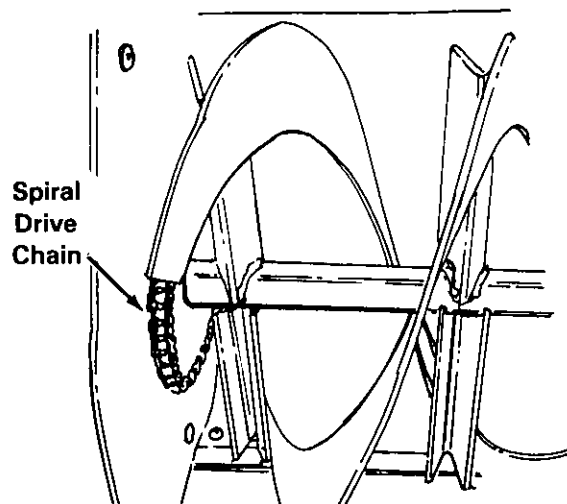

FIGURE 24
1. Spiral drive chain: Lubricate chain every 40 hours with No. 30 oil. It is important that oil reaches inside each roller. Wipe off excess oil from chain. See figure 24.